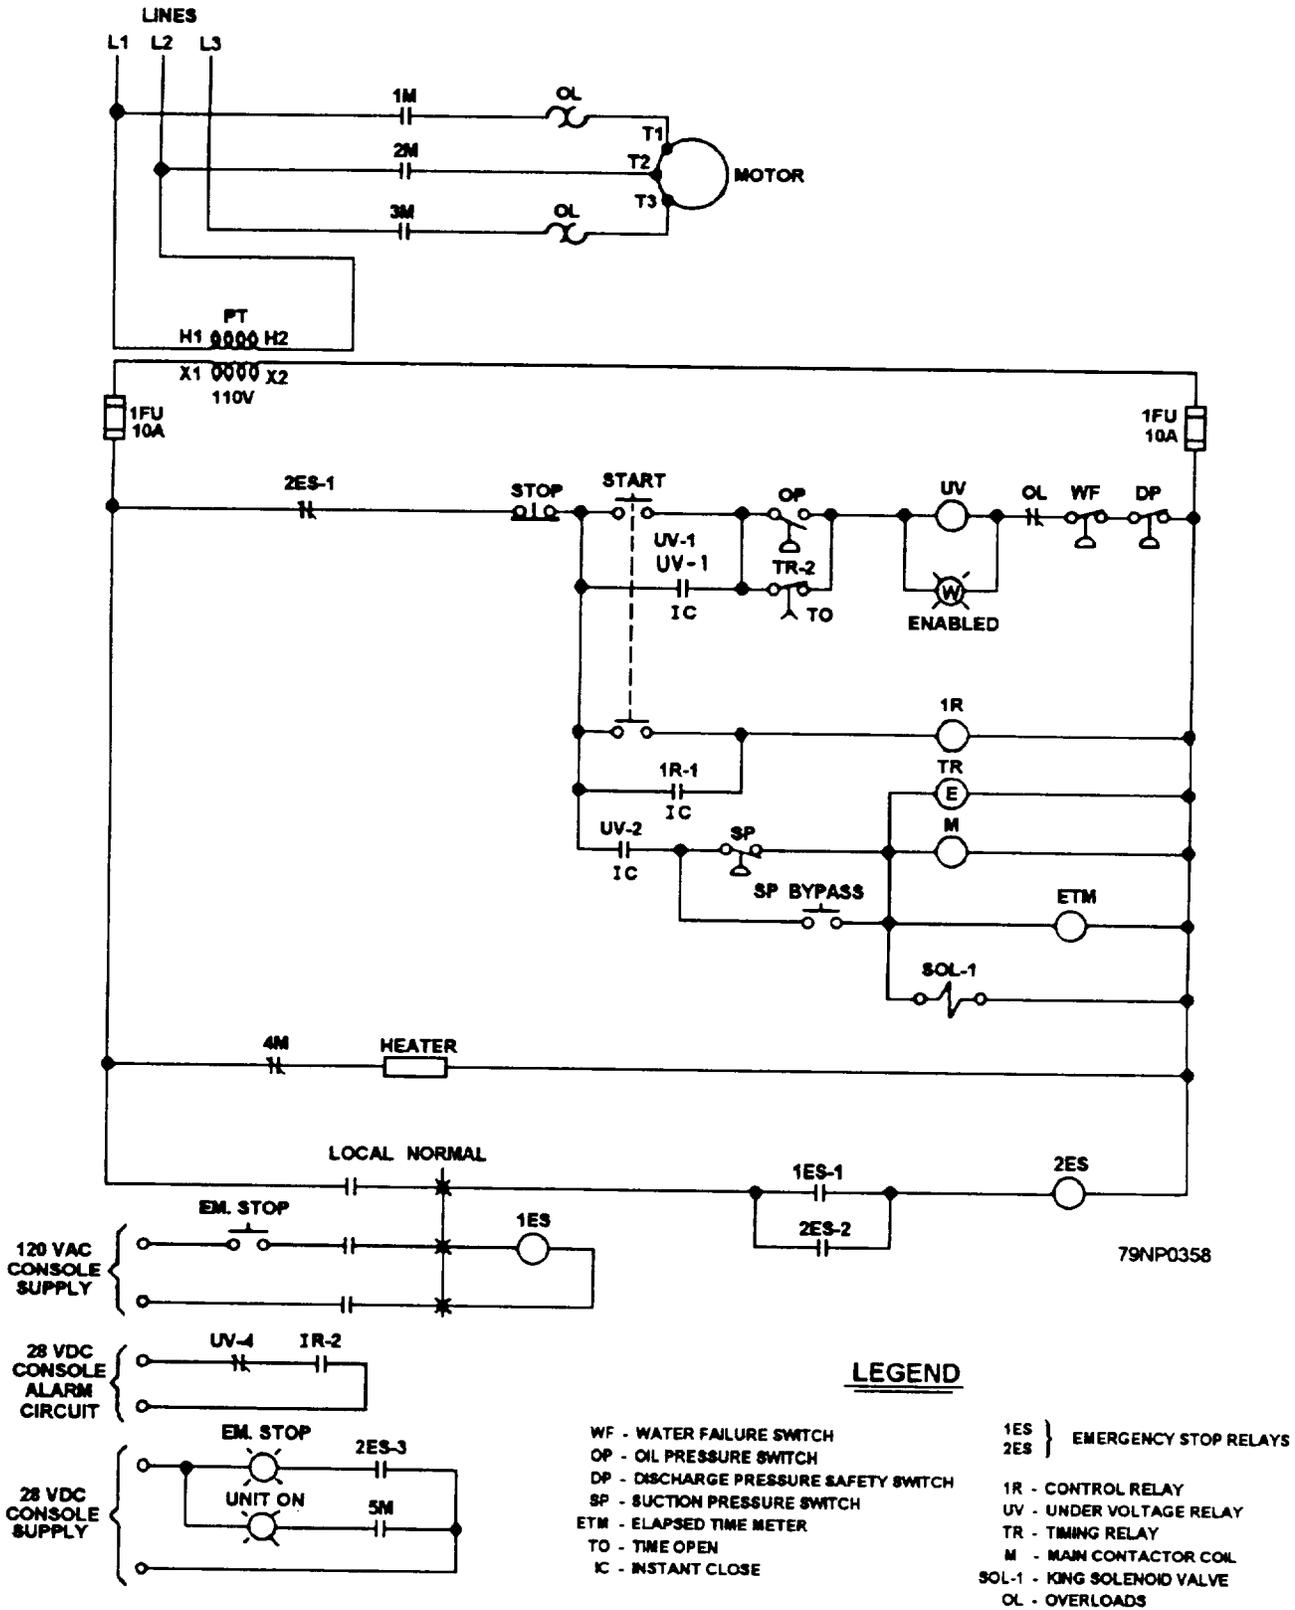

Figure 5-10.—Refrigeration plant wiring diagram.
figure 5-10. To start the compressor, turn the selector switch to LOCAL or NORMAL operation. Then press the start button. Provided the contacts for OL, WF, and DP are closed, the UV relay will be energized and close its UV-1 contacts across the start switch contacts, which will maintain the holding circuit for the UV relay. At the same time, the UV-2 contacts close, causing the main contactor coil (M), the relay (TR), and the elapsed time meter (ETM) to be energized. This causes the M coil to close its contacts (1M, 2M, and 3M), and then the motor should start.